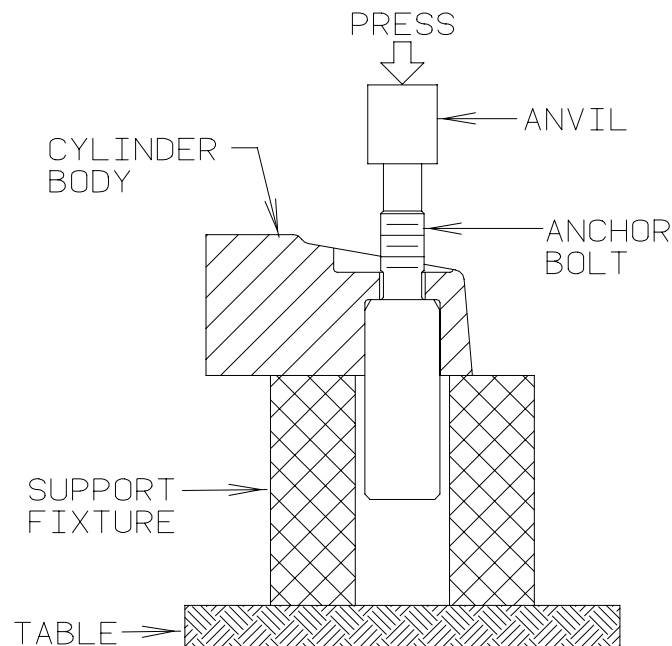

Figure 303 - Anchor Bolt Removal
- (a) Remove anchor bolt attachment nuts (12) and washers (13). The anchor bolts should be removed by using an arbor press. Ref. Figure 303.